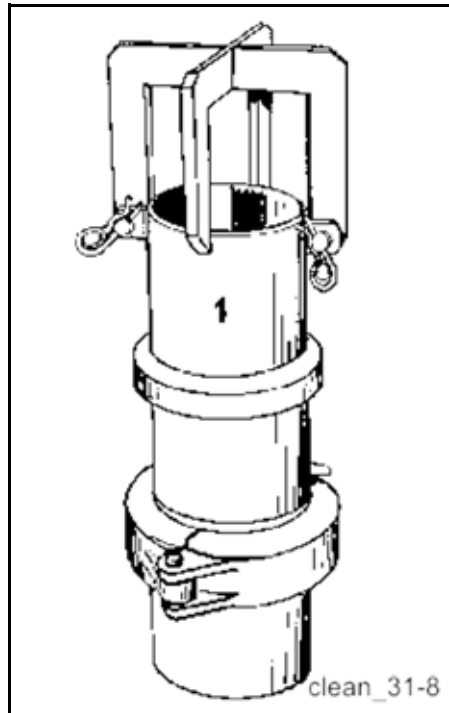

Fig. 233 Trap basket
5. A trap basket must be connected to the concrete outlet (**Fig. 233**).